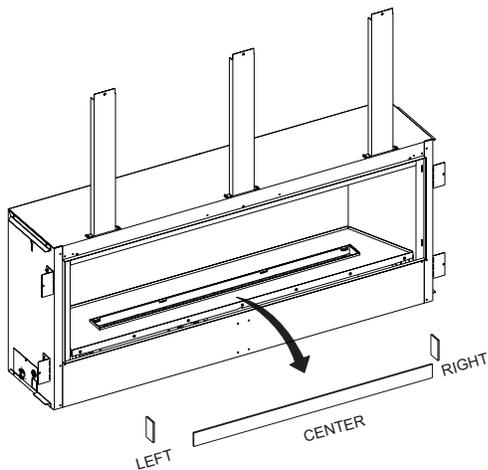

Figure 2
2. Remove glass panels around burner. **See Figure 2.**
- Reinstall glass panels removed in Step 2. **See Figure 2.**